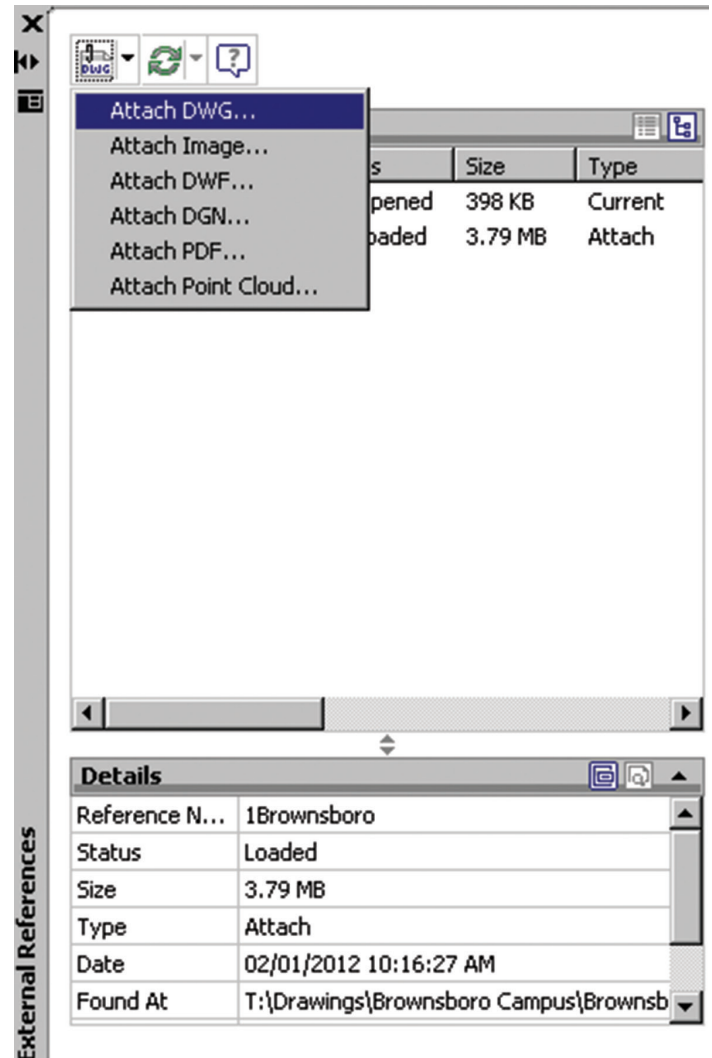

Figure 2: Attach file types
- Attach (file type) button – displays a list of file types that you can attach (see Figure 2).